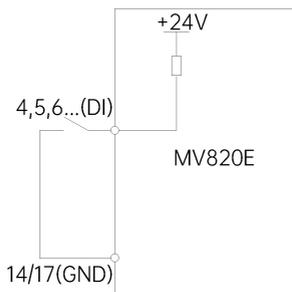

Fig. 4-16 Wiring diagram with the internal +24 V power supply of the drive is used
- (2) P09.11=1 (set digital terminal open circuit voltage to 24 V)
- ① Dry contact mode, shown in Fig. 4-16.